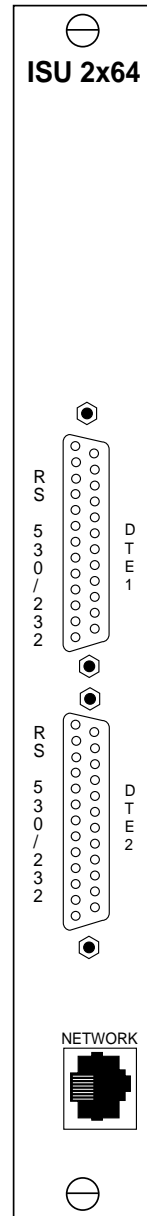

Figure 1-2
The ISU 2x64 Rackmount has one RJ-45 jack on the rear panel for ISDN network connection (see Figure 1-2). The RJ-45 jack is labeled **NETWORK**. ISDN Basic Rate Service divides a standard telephone line into three digital channels capable of simultaneous voice and data transmission. The three channels are comprised of two Bearer (B) channels at 64 kbps and one Delta (D) channel at 16 kbps (also known as 2B+D).